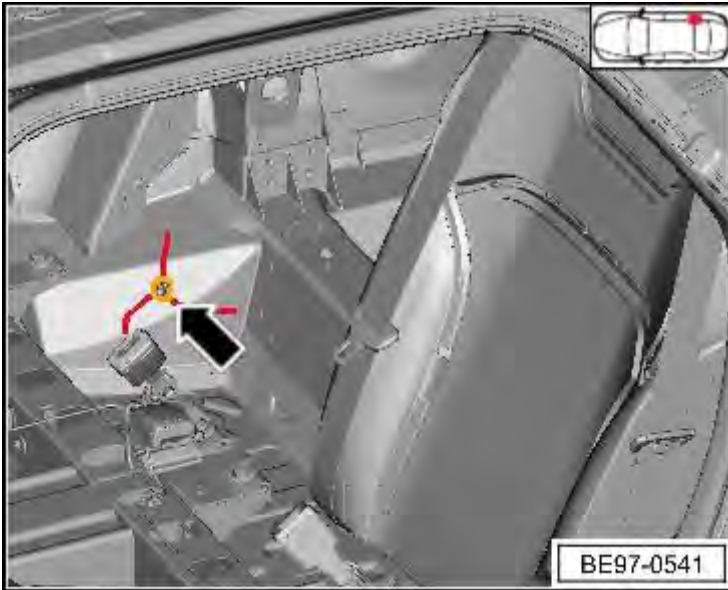
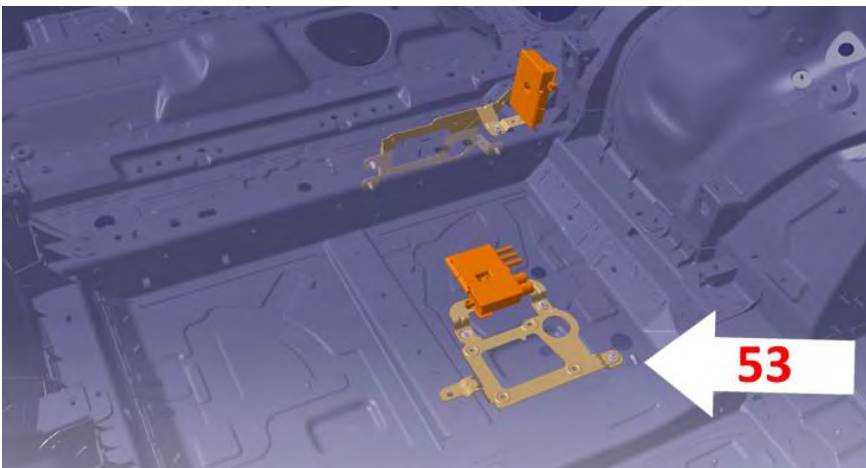

Figure 3
Figure 4
IMPORTANT: Figure 3 shows the earth point (730) on 4/5 seat specification vehicles - Figure 4 shows the earth point location (53) for 7 seat specification vehicles
- **4 and 5 seat variants** - Referring Figure 3 and the Repair manual wiring diagrams locate earth point **number 730**
- **7 seat variants** - Referring Figure 4 - Locate earth point **number 53** (Situating to the right hand side of the rear floor panel) to gain access remove the rear bench assembly - 3rd row - Refer to Repair manual Rep. Gr 72 Rear bench seat assembly - 3rd row (7 seat) - to remove and fit